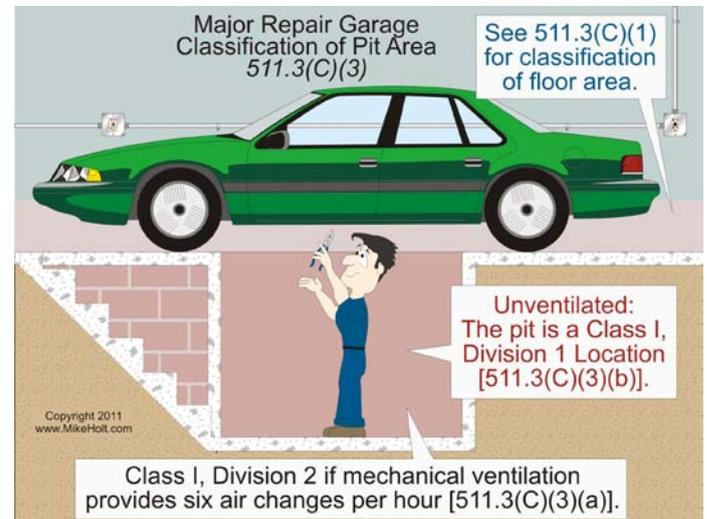

Figure 511-3
(3) Pit Areas in Lubrication or Service Room. The pit area is classified as provided in (a) or (b). **Figure 511-3**